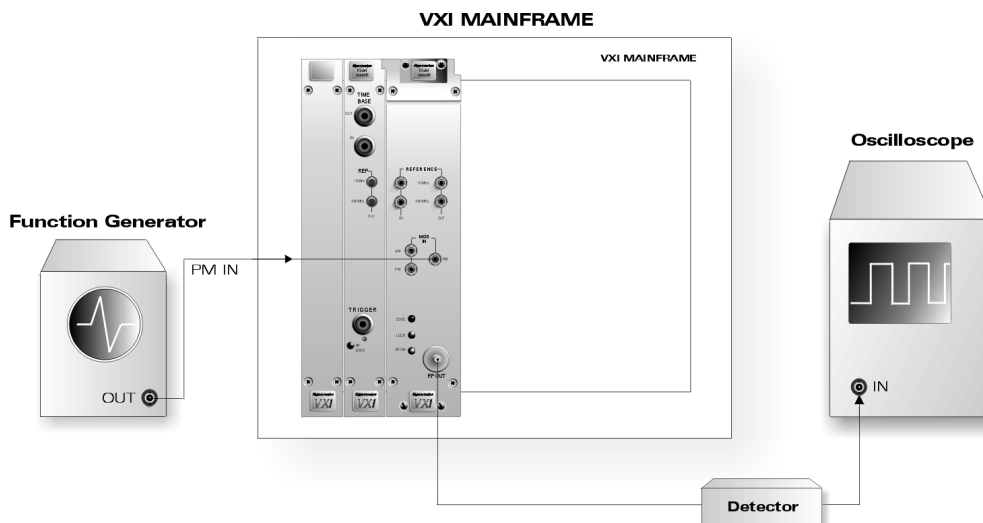

Figure 4-7: Pulse Modulation Rise & Fall Time Test
1. Connect the equipment as shown in Figure 4-7. The cable from the detector to the oscilloscope should be kept as short as possible.